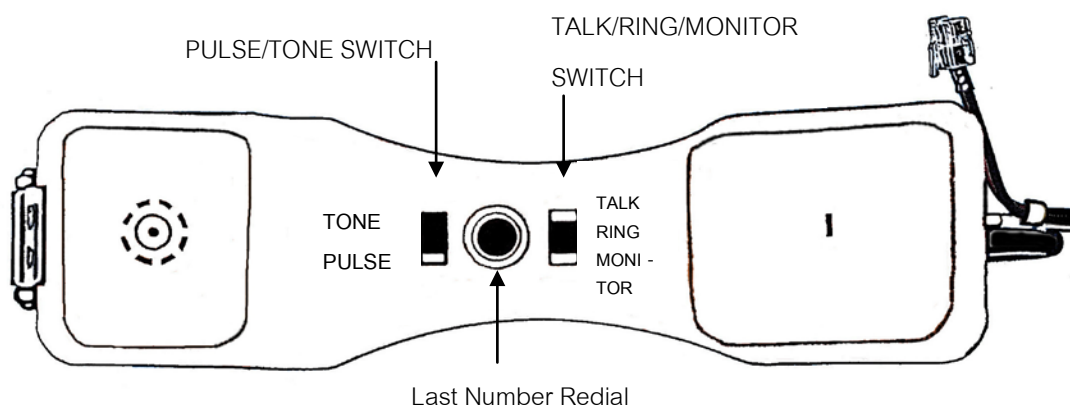

Figure 2
4.1 Handgrip controls (Figure 2):
Last Number Redial Button. “R” serves as a last number dialled key (Figure 2). The number may be redialled in either pulse or tone mode, as selected by the PULSE/TONE switch